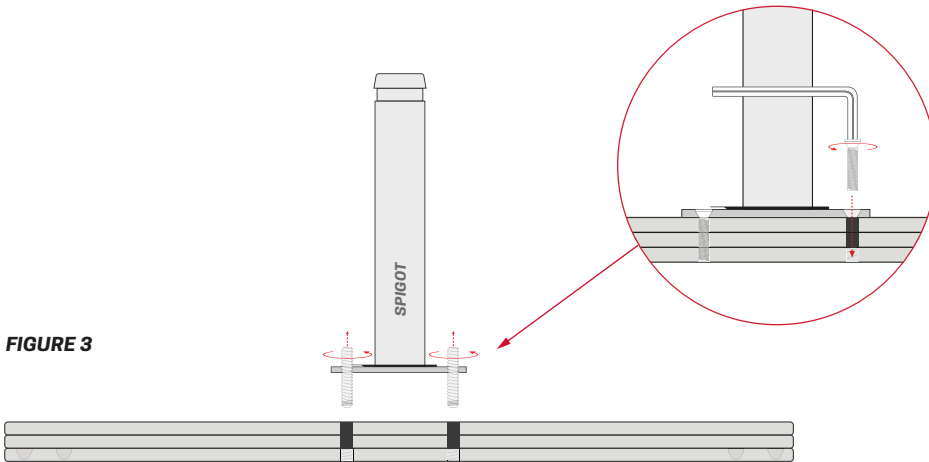

FIGURE 4
Your Eclipse® Cantilever comes with the Spigot already inserted in the mast of your umbrella. Once you have properly installed to your selected mount/base option, remove the Spigot from your umbrella and you can begin to mount your Spigot to the G-Plate Stack, and then the umbrella (see **FIGURE 4**).
- With your Spigot in place on G-Plate stack lined up to the outer four bolts, use the supplied hardware that is packed with your umbrella and bolt the Spigot onto the G-Plate stack threading down into the bottom plate (**FIGURE 4**). Once your Spigot is secure to the G-Plate stack, begin to lift the Eclipse® onto the Spigot until you hear an audible “click” indicating your umbrella is secure.